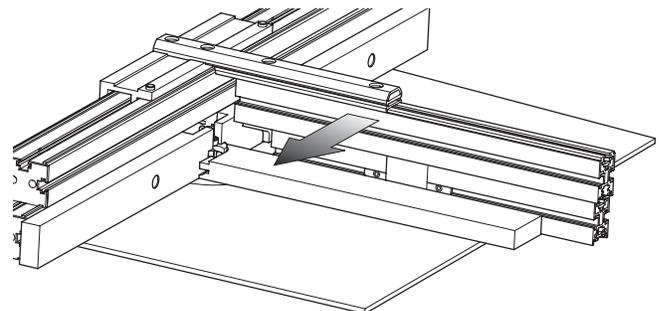

Figure 7: End routing.
3. With a test piece held against the sled, and the end of the test piece up against the sub-fences, push the test piece through the rotating bit (see **Figure 7**). Check for proper depth of cut, making any necessary adjustments to the fence.